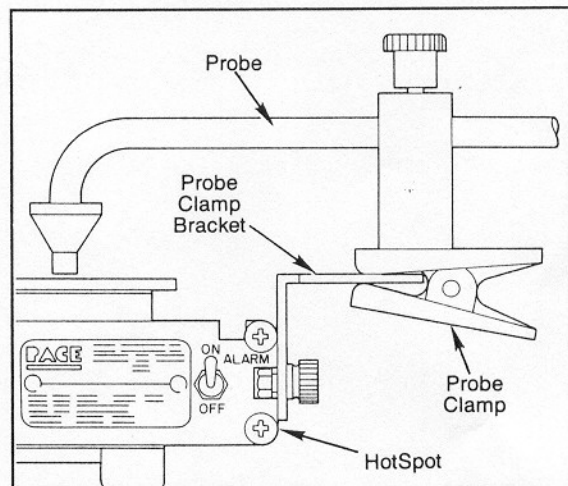

FIGURE 7. ATTACHING PROBE TO BRACKET
10. Attach Probe to Probe Clamp Bracket, refer to Figure 7.